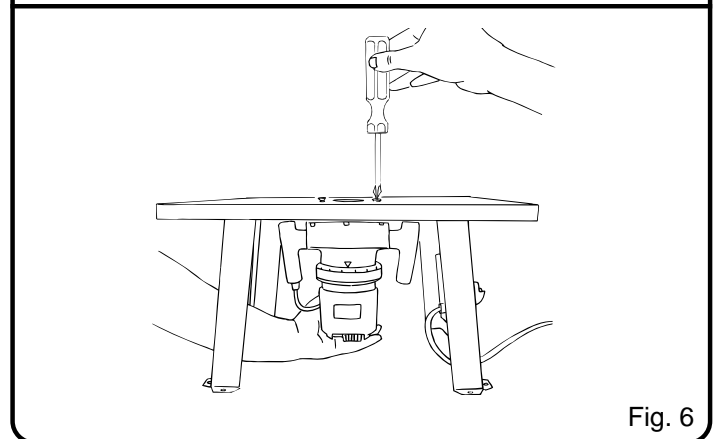

Fig. 6
- Hold the router upside down so that the Ryobi label is facing the front of the table. Align the holes in the table with the holes in the router. Holding the router with one hand, use the other hand to securely tighten each of the three screws with a phillips screwdriver. See Figure 6.